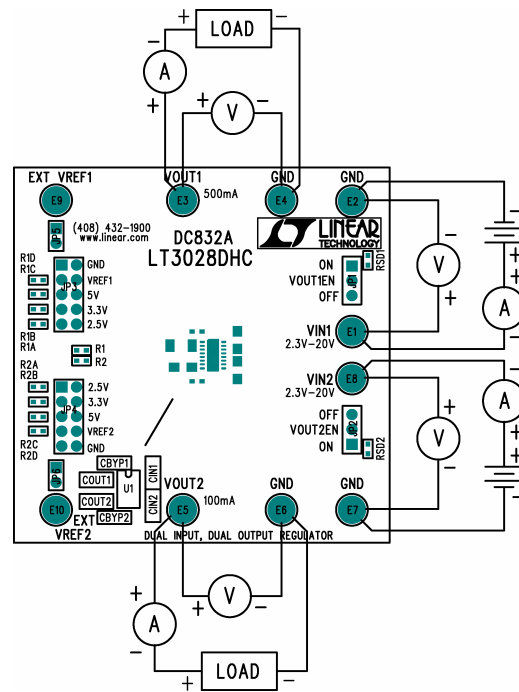

Figure1. Proper Measurement Equipment Setup
The DC832 is easy to set up to evaluate the performance of the LT3028. For a proper measurement equipment configuration, set up the circuit according to the diagram in Figure 1.
1. Connect the input power supply to the Vin and GND terminals. Connect the loads between the Vout and GND terminals. Refer to figure 1 for the proper measurement equipment setup.